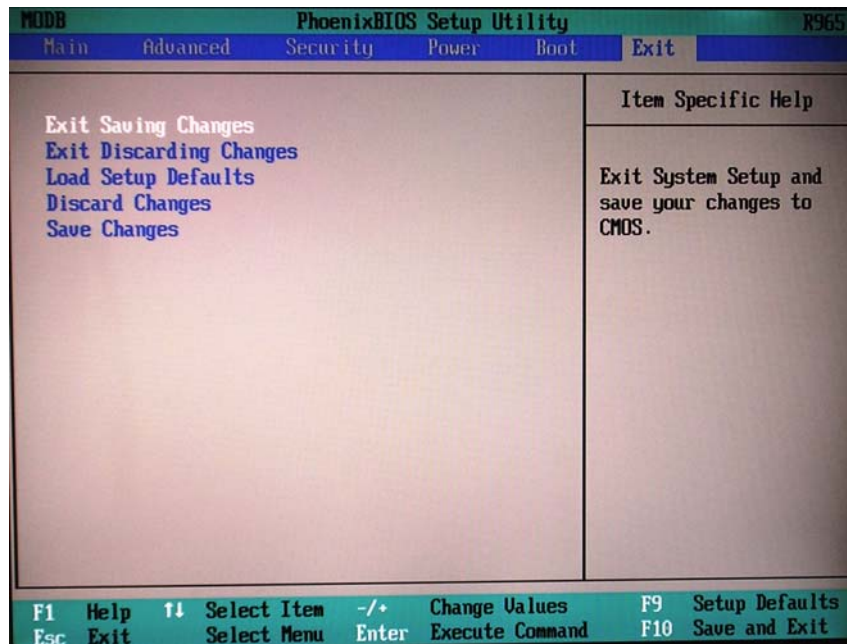

Figure 8-69 BIOS Exit Screen
11) Press <F10> to **Exit Saving Changes** as shown in Figure 8-69.